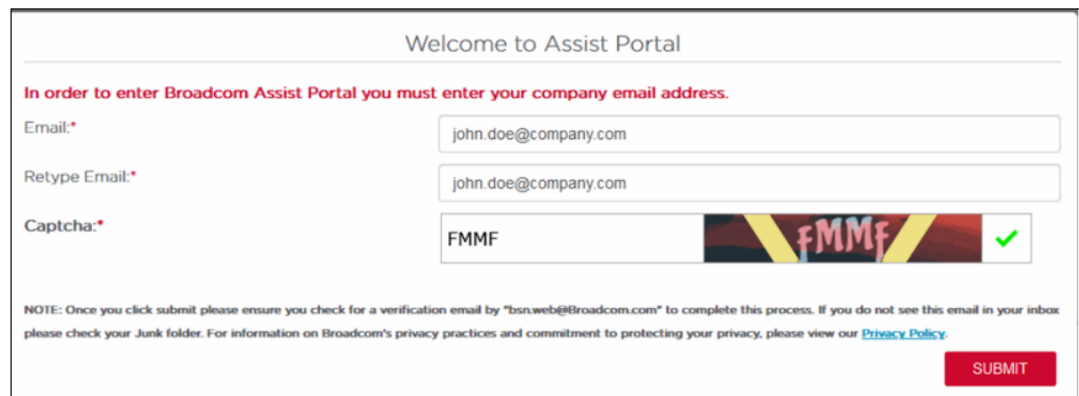

Figure 9-11 Enter your email address and the captcha
11. On the Broadcom page enter your email address and the captcha. See Figure 9-11